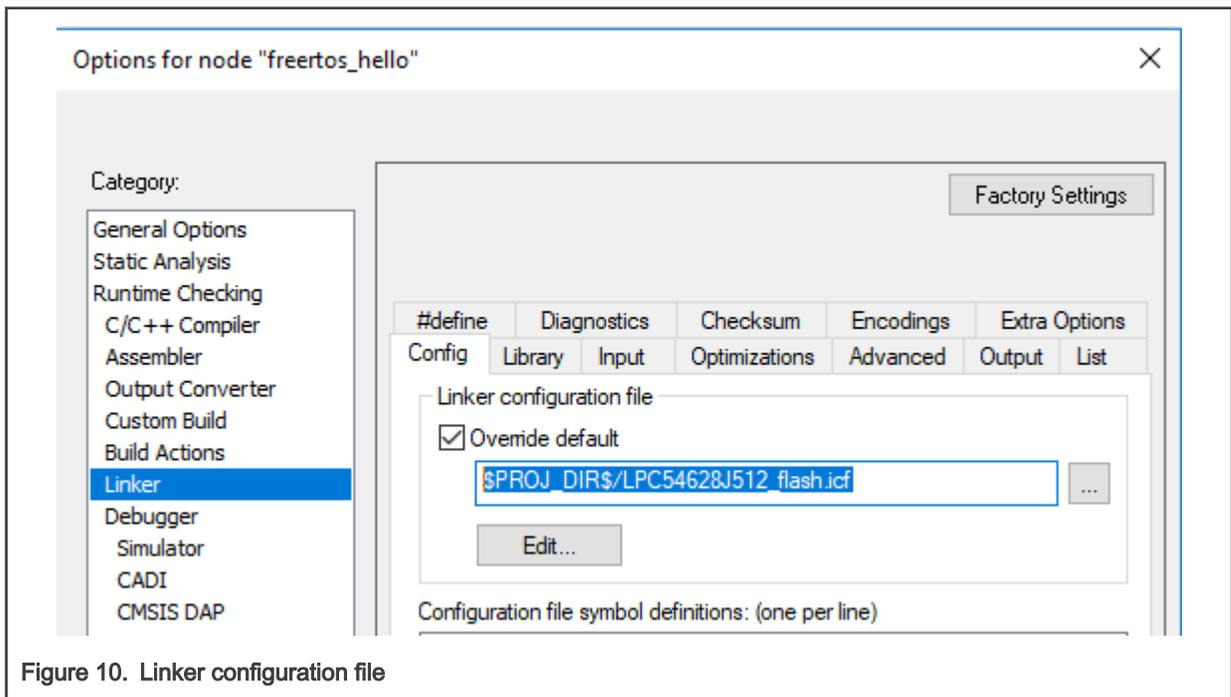

Figure 10. Linker configuration file
1. Find the linker file as shown in Figure 10.